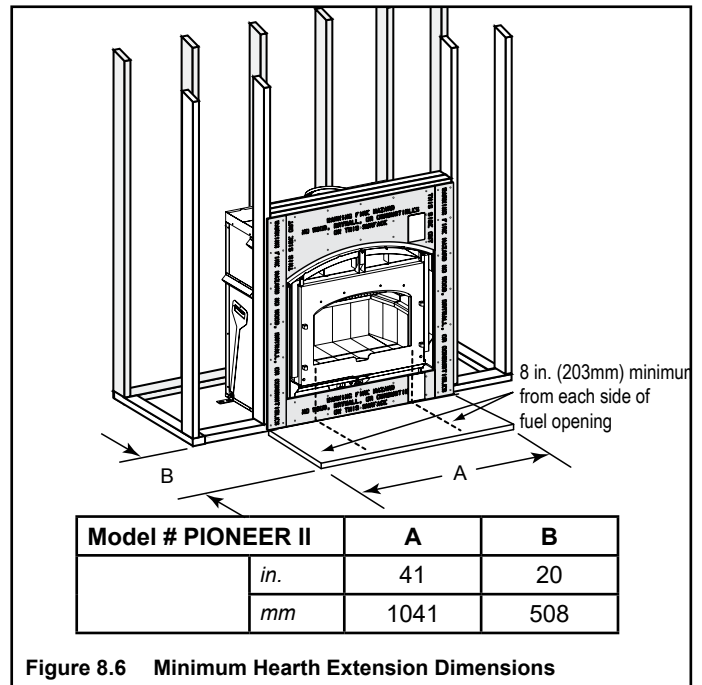

Figure 8.6 Minimum Hearth Extension Dimensions
- Refer to Figure 8.6 for minimum dimensions.
Non-combustible flooring a minimum of 20 in. (508 mm) in front of and 8 in. (203 mm) to either side of the fuel opening is required as shown in Figure 8.6.
Non-combustible flooring a minimum of 20 in. (508 mm) in front of and 8 in. (203 mm) to either side of the fuel opening is required (see Figure 8.6).